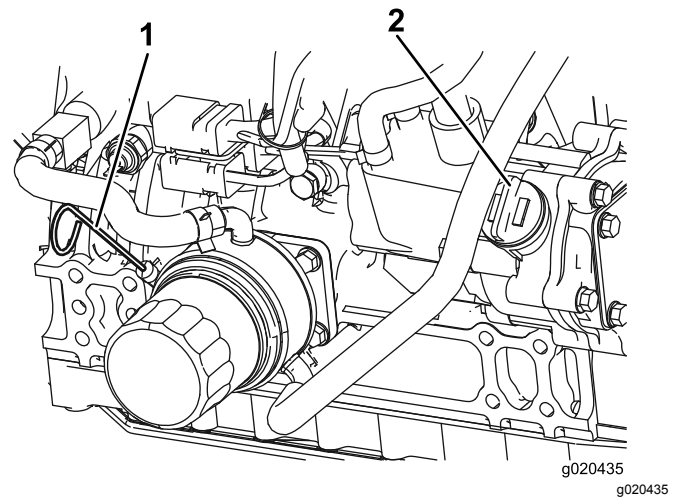

Figure 65
3. Remove the dipstick, wipe it clean, install the dipstick into the tube, and pull it out again. The oil level should be between the full and add marks (Figure 65).
4. If the oil level is low, remove the fill cap (Figure 65) and add oil until it is between the full and add marks. **Do not overfill.**